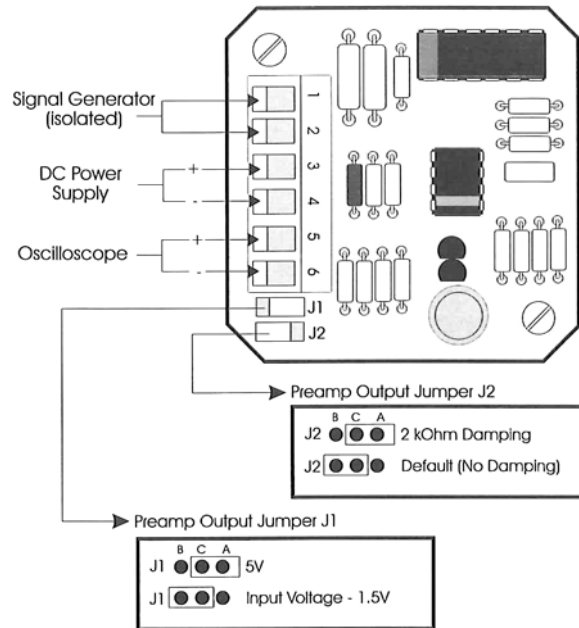

Figure 4-2. Connections for Preamplifier Testing
1. Connect the test equipment to the preamp board as shown in Figure 4-2.